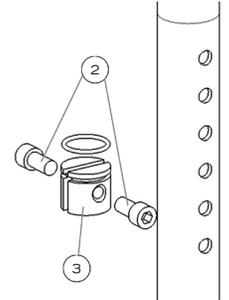

Fig. 19b
- Remove screws (2) (Fig. 19b).
- Inside the armrest tube, slide the dowel nut with a long flat screwdriver at the desired height (3)
- Reinstall screws (2).